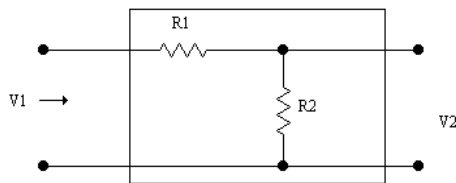

Figure 2.1
3. In this voltage divider circuit of Figure 2.1, the parameters are: